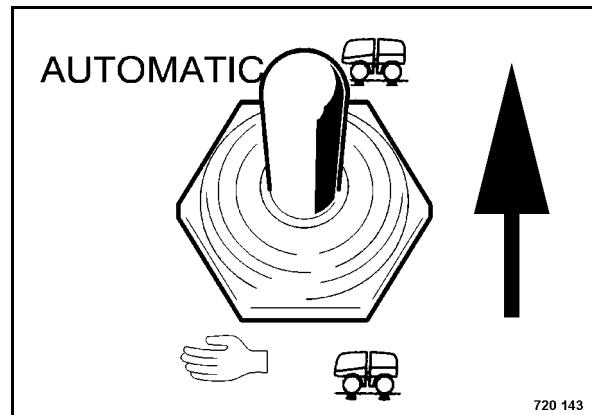

Fig. 44
- Set the vibration switch (Fig. 44) to "Automatic".